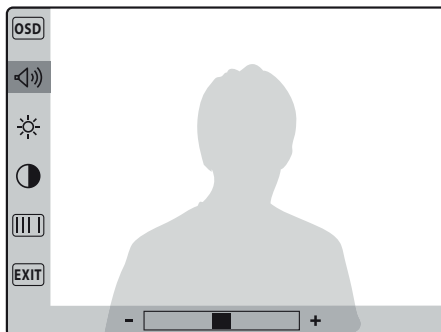

Fig.4
- To enter into programming menu press the  button Fig.4.
- The speech volume (8 levels Fig.4);
4. Once the videophone is fixed to the flush mounting box, place the front plate against the videophone by inserting the hooks in the corresponding openings and hook the plate by pushing it down as shown in figure 4.
- Remove the front plate doing the contrary of what is shown in fig. 4 and 4a;